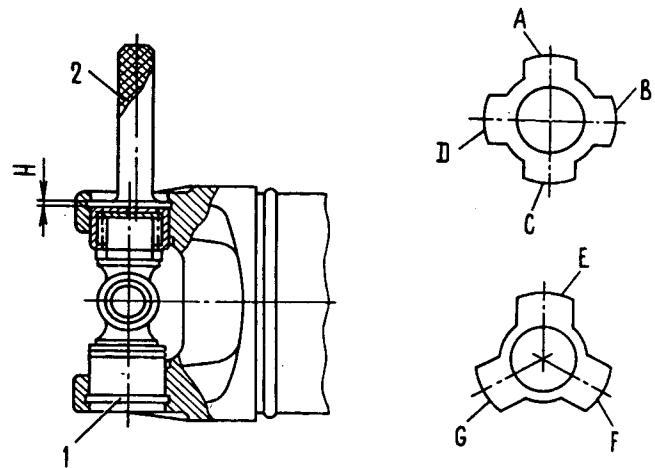

Fig. 3-55. Assembling Universal Joint:
- remove old thick grease and coat the inner surface of the bearing housing with grease No. 158 or Φ MOJ-2Y (0.8 - 1.2 g per bearing). Do not coat with grease the cross trunnions to prevent formation of air pocket during the assembly. Insert the cross into the holes in the yokes. Press-fit the bearing into one hole in the yoke and fit 1.56 mm thick lockring 1 (Fig. 3-55) into the groove in the yoke. Press-fit the bearing into the other hole in the yoke till the opposite bearing thrusts against the end of the lockring. The effort of press-fitting should not exceed 15,000 N (1,500 kgf).